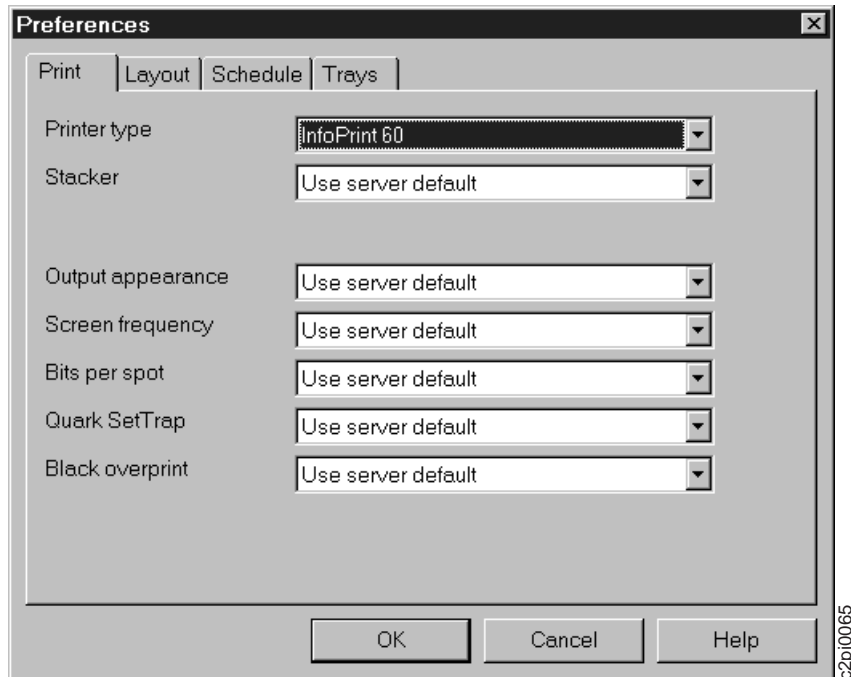

Figure 31. Preferences - Print Tab
4. You see the Preferences window (Figure 31 on page 34). For "Printer type", select "InfoPrint 60".